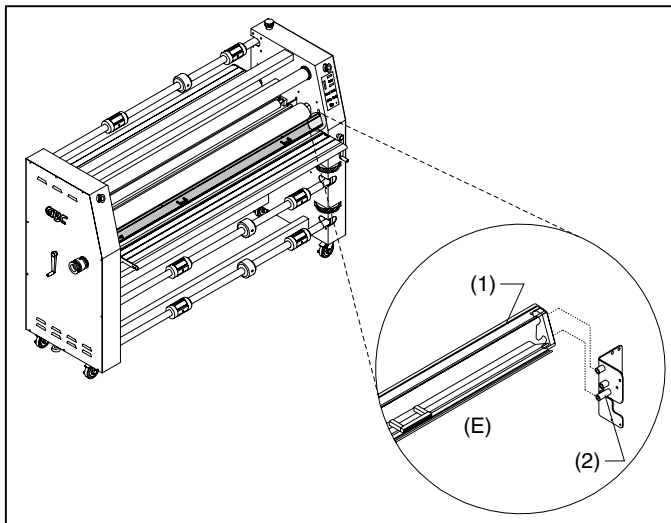

Fig. 11
E. SAFETY SHIELD: (Figure 11) Prevents entanglement, entrapment and inadvertent contact with the heat rollers. **The laminator will operate only when the Safety Shield is located in the fully locked and closed position. Power to the motor is removed when the shield is in the open position or the interlock latch is unlocked.**